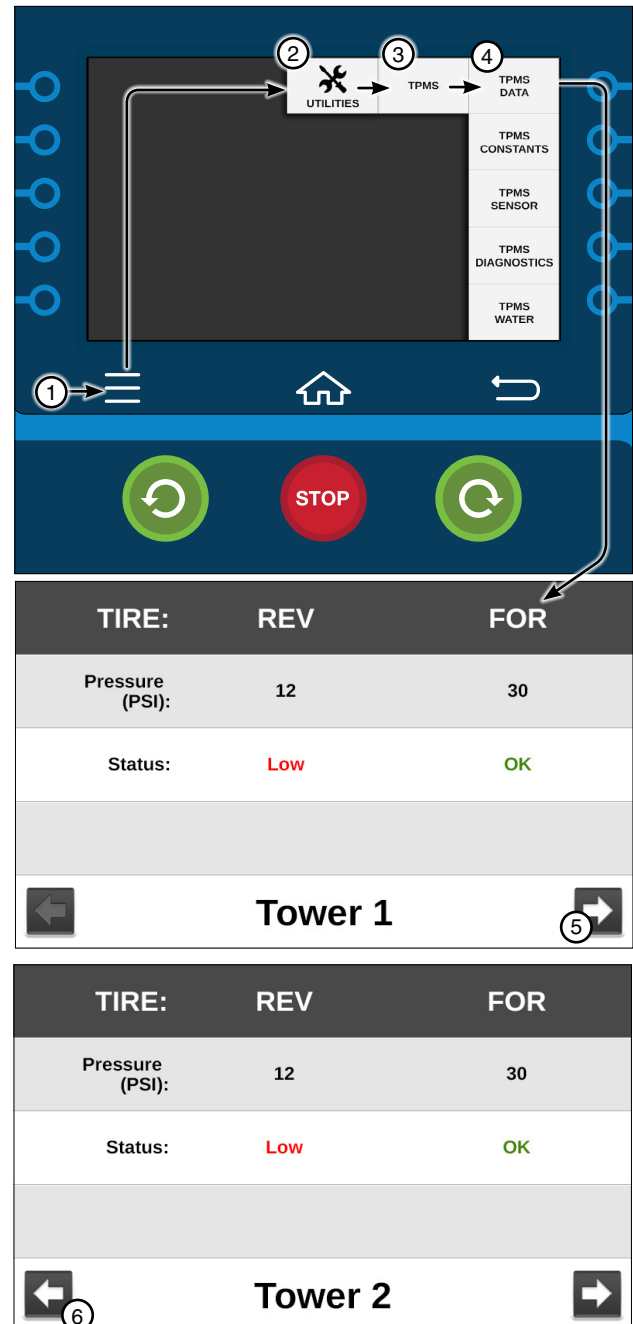

Figure 83-1 1. Menu 2. Utilities 3. TPMS 4. TPMS Data 5. Next 6. Previous
Push **Menu**, **Utilities**, and **TPMS** to display the TPMS menu. Refer to Figure 83-1.
1. Push **Menu**, **Utilities**, **TPMS**, and **TPMS Data** for the Tire Pressure Data screen. Refer to Figure 83-1.